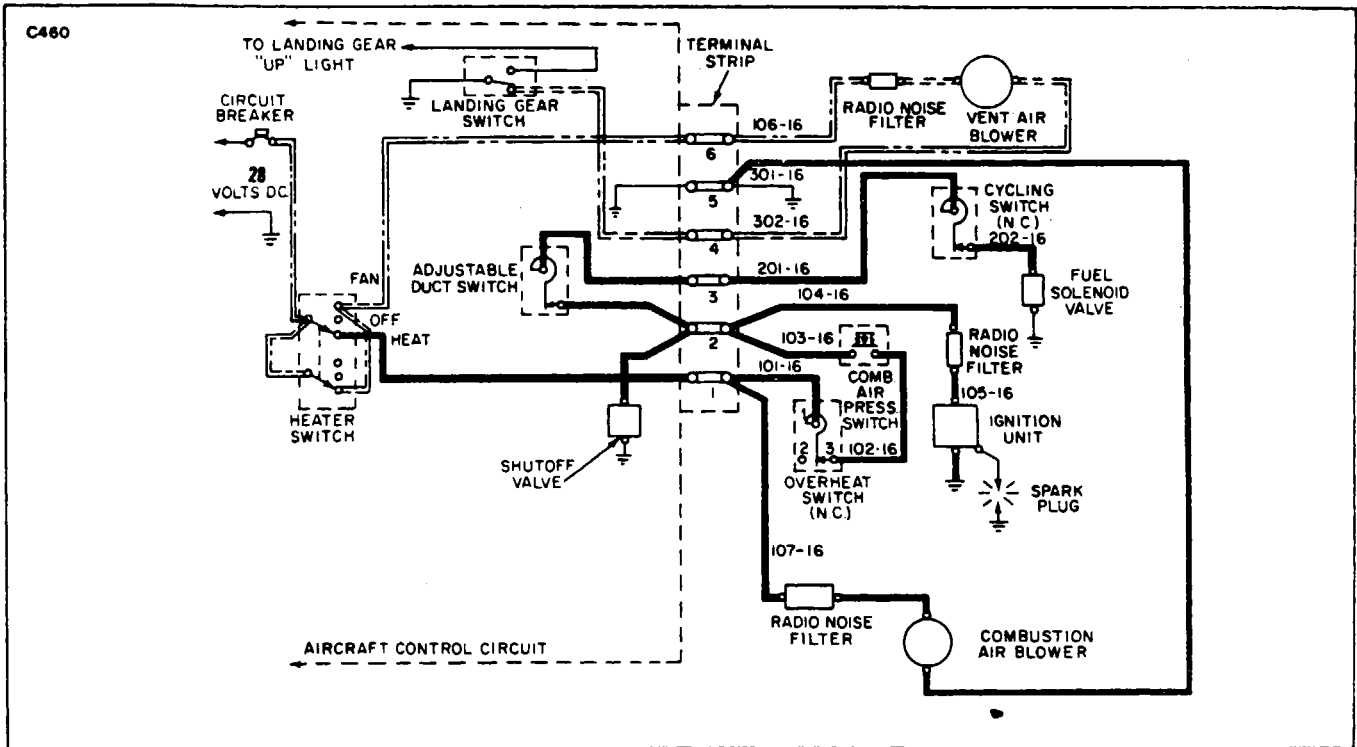

Figure 13-16. Starting Power Circuit, 39D59 Heater System No. 1
a. With the HEATER SWITCH in the HEAT position, electrical continuity should be present at the following locations: (Refer to Figures 13-16, 13-17 or 13-18.)